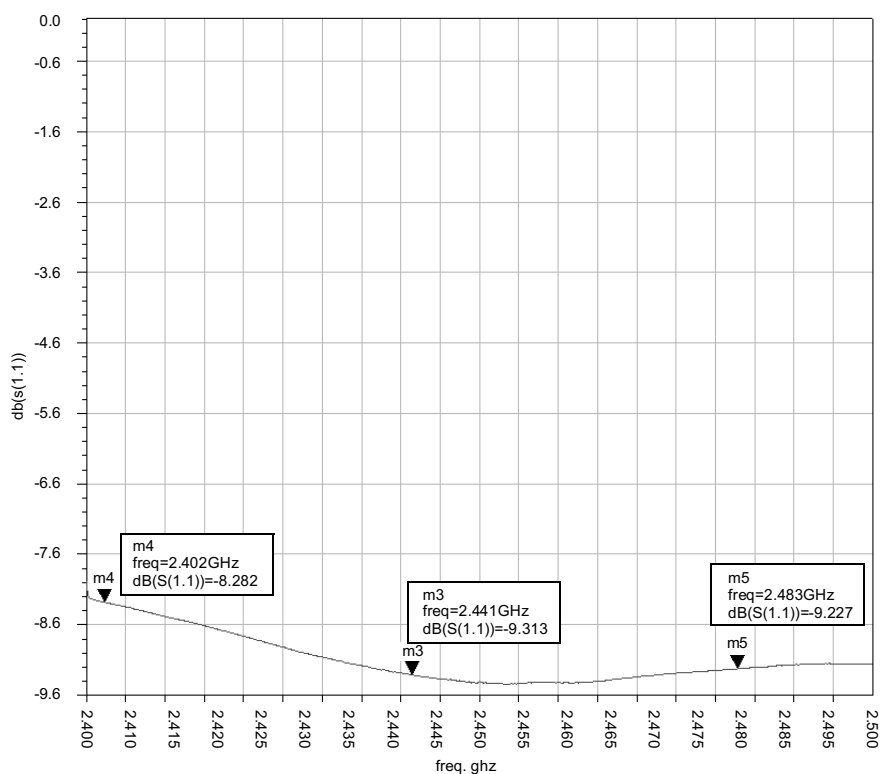

Figure 9. Transceiver Return Loss
- Reference chart Figure 9 on page 14.
8. Reference chart Figure 9 on page 14.